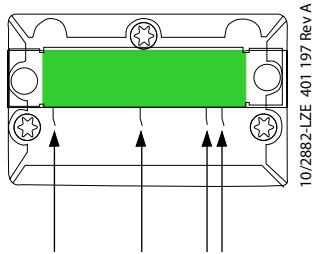

Figure 17 Locating the four pins to be cut off.
12. Lift off the loosened metallic cover. The Beryllium Oxide component is now visible. Cut the four pins as per Figure 17.